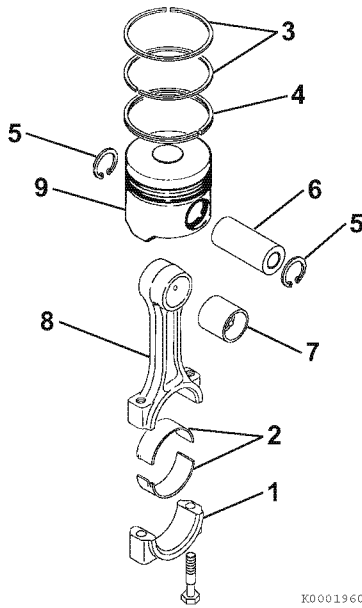

Figure 6-84
2. If removed, install a new wrist pin bushing (Figure 6-84, (7)) using a press and the appropriate service tool. Be sure to align the oil holes.
- Reinstall one circlip (Figure 6-84, (5)) into the piston. Ensure the circlip is securely seated in the groove.